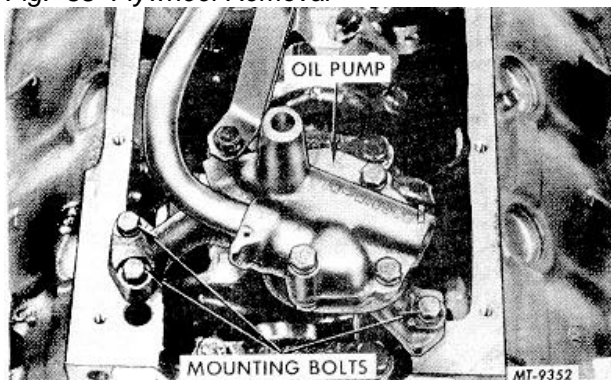

Fig. 39 Oil Pump Mounting Bolts
48. Remove oil pump mounting bolts. (See Fig. 39.) Lift oil pump and withdraw pump drive shaft from cylinder block to remove oil pump.